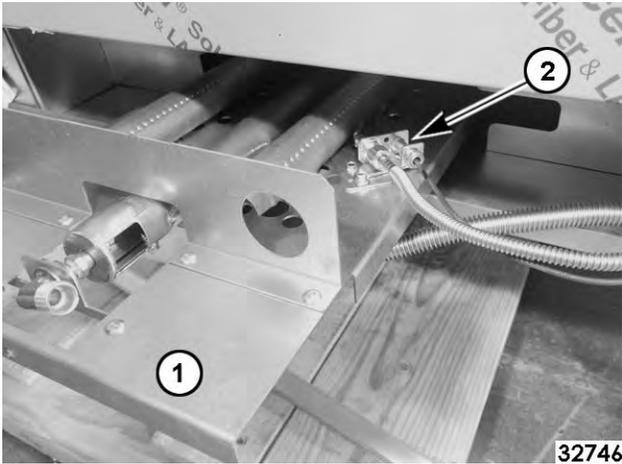

Fig. 52
6. Lift and pull burner drawer box (1, Fig. 52) out from oven until pilot burner is accessible.
8. Pull burner out and disconnect pilot gas tubing and thermocouple (2, Fig. 52).